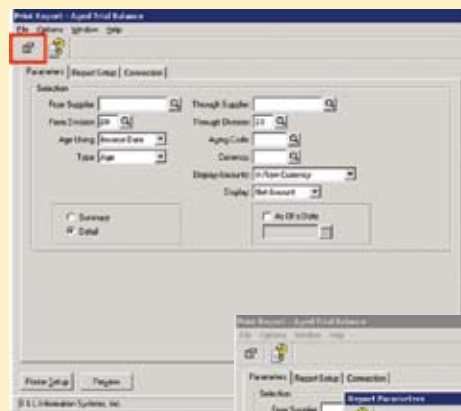

Figure 1
- 2) Click on the properties box (as shown in Figure 1 in red).